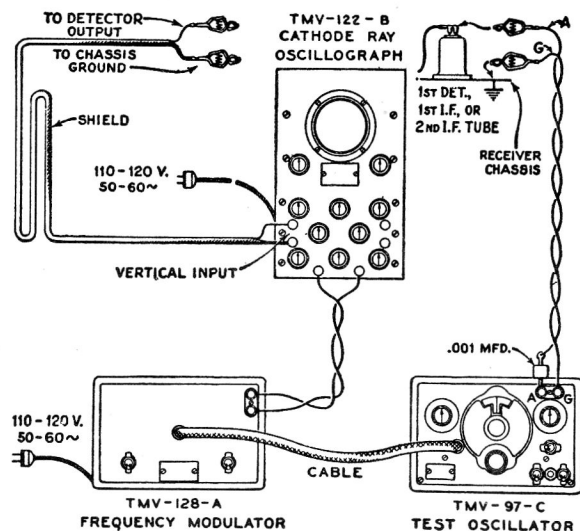
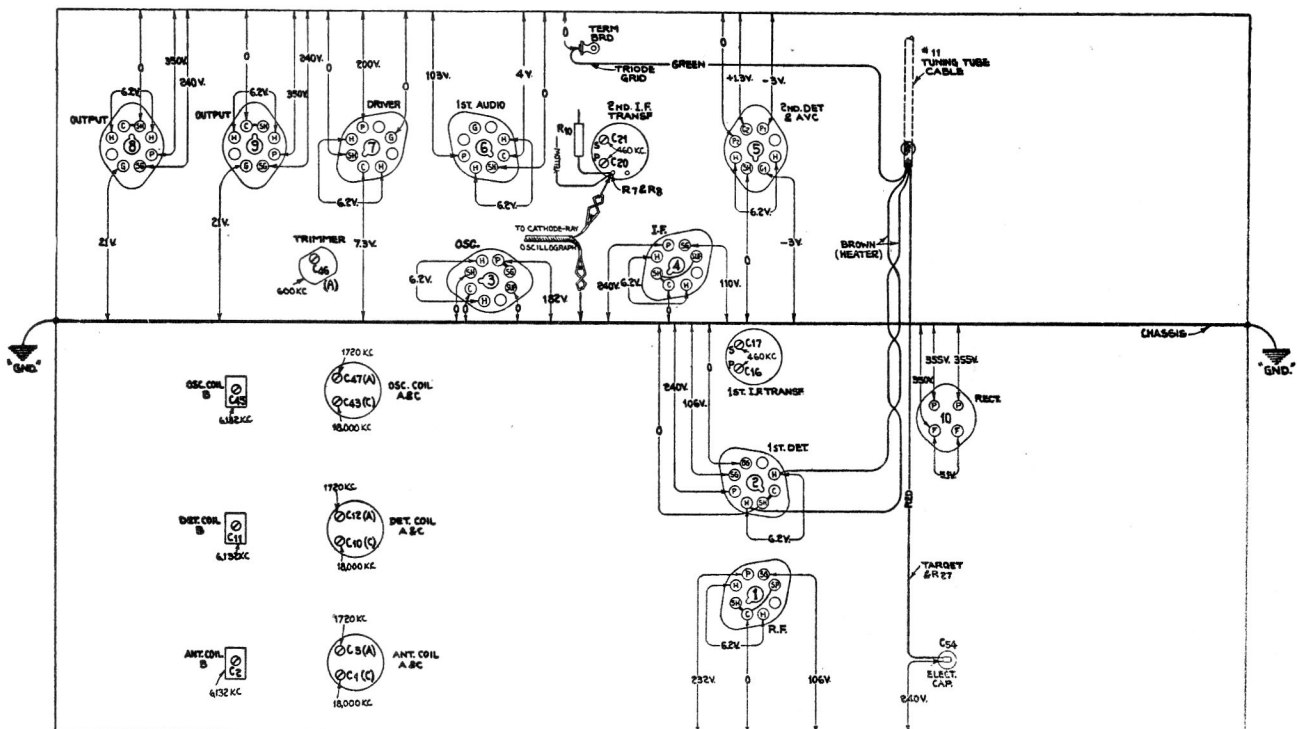

Figure 5—Alignment Apparatus Connections
Figure 6—Trimmer Locations and Radiotron Socket Voltages
The four trimmers of the two i-f transformers are located as shown by Figure 6. Each must be aligned to a basic frequency of **460 kc.** The last transformer must be aligned firstly and the first transformer aligned secondly. For such a process, it is necessary to feed the output of the Full Range Oscillator to the stages in their order of alignment, adjusting the trimmers of each transformer and observing the effect at the second detector output on the Cathode-Ray Oscillograph. The proper point of connection of the Oscillograph is with its vertical "high" input terminal attached to the junction of R-7 and R-8, as illustrated in Figure 6, and with the "0" or ground terminal to the chassis. The "Ext. Sync." terminals of the Oscillograph should be connected to the Frequency Modulator as shown by Figure 5. A .001 mfd. capacitor installed in series with the Oscillator "Ant." lead will prevent the voltages of the stage under alignment from becoming upset. The vertical "A" amplifier should be "On" for the ensuing adjustments and its gain control kept at maximum. For each adjustment, the Oscillator output must be regulated so that the image obtained on the Oscillograph screen will be of the minimum size convenient for accurate observation. Proceed further as follows:—
- (b) Attach the output of the test Oscillator between the control grid cap of the Type-6K7 i-f tube and chassis ground as shown typically by Figure 5. Tune the Oscillator to **460 kc.** and set its modulation switch to "On." Regulate its output until the signal produces a wave pattern on the Oscillograph screen, adjusting the Oscillograph controls to give a shape which is convenient for peak indications. Cause the image to stand still on the screen by manipulation of the frequency and synchronizing controls. Then carefully tune the two trimmers C-20 and C-21 of the second i-f transformer to produce maximum amplitude (vertical deflection) of the oscillographic image. Under this condition the transformer will be sharply resonated to 460 kc.
- (c) The Frequency Modulator should then be placed in operation and interconnected with the Full Range Oscillator by means of the special shielded patch cord. Figure 5 shows the proper arrangement. Set the Frequency Modulator sweep range switch to its "Lo" position and turn the Oscillator modulation switch to "Off." Change the timing control of the Oscillograph to "Ext." and place the range switch to its No. 2 position. Then carefully shift the tuning of the Oscillator so as to increase its frequency, until two distinct and similar waves appear on the Oscillograph screen and become exactly coincident at their highest points. This condition will be found to occur at an Oscillator setting of *approximately 540 kc.* The curves will be identical in shape but appearing in reversed positions. Adjust the frequency control of the Oscillograph in order to cause the waves to conform with the above requirement and to make them remain motionless on the screen. This will require a setting of *approximately 1/2* clockwise rotation of the frequency control. The trimmers C-20 and C-21 should then be re-adjusted so that the two curves move together and become exactly coincident throughout their lengths, maintaining the maximum amplitude at which this condition can be brought about.
Locations of the various antenna, detector and oscillator coil trimmers are shown by Figure 6. The test Oscillator should be removed from connection with
sary to have the timing control of the Oscillograph on "Int." for this operation. After each trimmer has been peaked, the Oscillograph timing control should be set to "Ext." and the Frequency Modulator placed into operation with its connections to the Oscillator and Oscillograph made in accordance with Figure 5. Turn the modulation switch of the Oscillator to "Off" and retune the Oscillator (increase frequency) until the forward and reverse waves show on the Oscillograph and become coincident at their highest points. Adjust the trimmers C-47, C-12 and C-3 again, setting each to the point which produces the best coincidence and maximum amplitude of the wave images.
socket contacts to chassis on Figure 6 will serve to assist in the location of causes for faulty operation. Each value as specified should hold within + 20% when the receiver is normally operative at its rated supply voltage. Variations in excess of this limit will usually be indicative of trouble in the basic circuits. The voltages given are actual operating values and do not allow for inaccuracies which may be caused by the loading effect of a voltmeter's internal resistance. This resistance should be duly considered for all readings. The amount of circuit resistance shunting the meter during measurement will determine the accuracy to be obtained, the error increasing as the meter resistance becomes comparable to or less than the circuit resistance. For the majority of readings, a meter having an internal resistance of 1000 ohms per volt will be satisfactory when the range used for each reading is chosen as high as possible consistent with good readability.